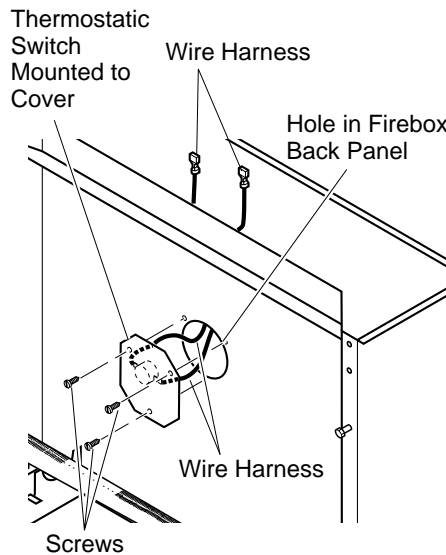

Figure 20 - Assembling Thermostatic Switch and Cover to Firebox Back Panel
13. Feed terminal ends of wire harness into the hole in firebox back panel from front of firebox. Pull the ends of the harness to the top of firebox near blower (see Figure 20).
14. Align holes in the switch/cover assembly with holes in firebox back panel. Using 3 screws from step 11, attach assembly to firebox back panel. Tighten screws firmly (see Figure 20).